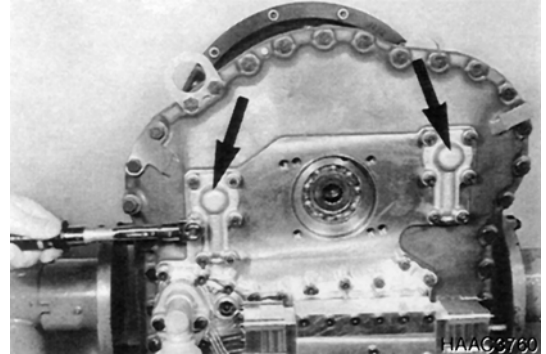

Figure 283
6. Fasten the two covers (Figure 283) using hex. nuts (mount flat washers) on the housing.